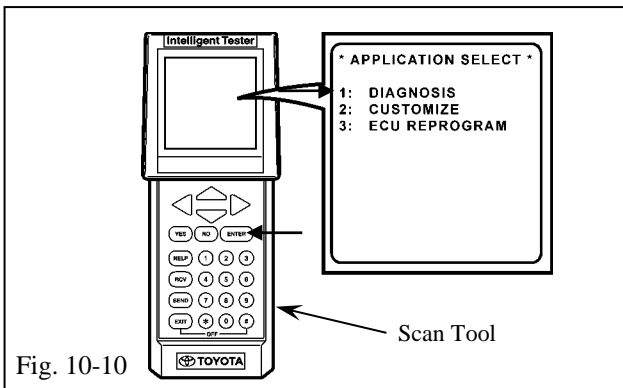

Fig. 10-10
- (k) Select “DIAGNOSIS” in the Application Select menu with the scroll key, then press the “ENTER” button. (Fig. 10-10)